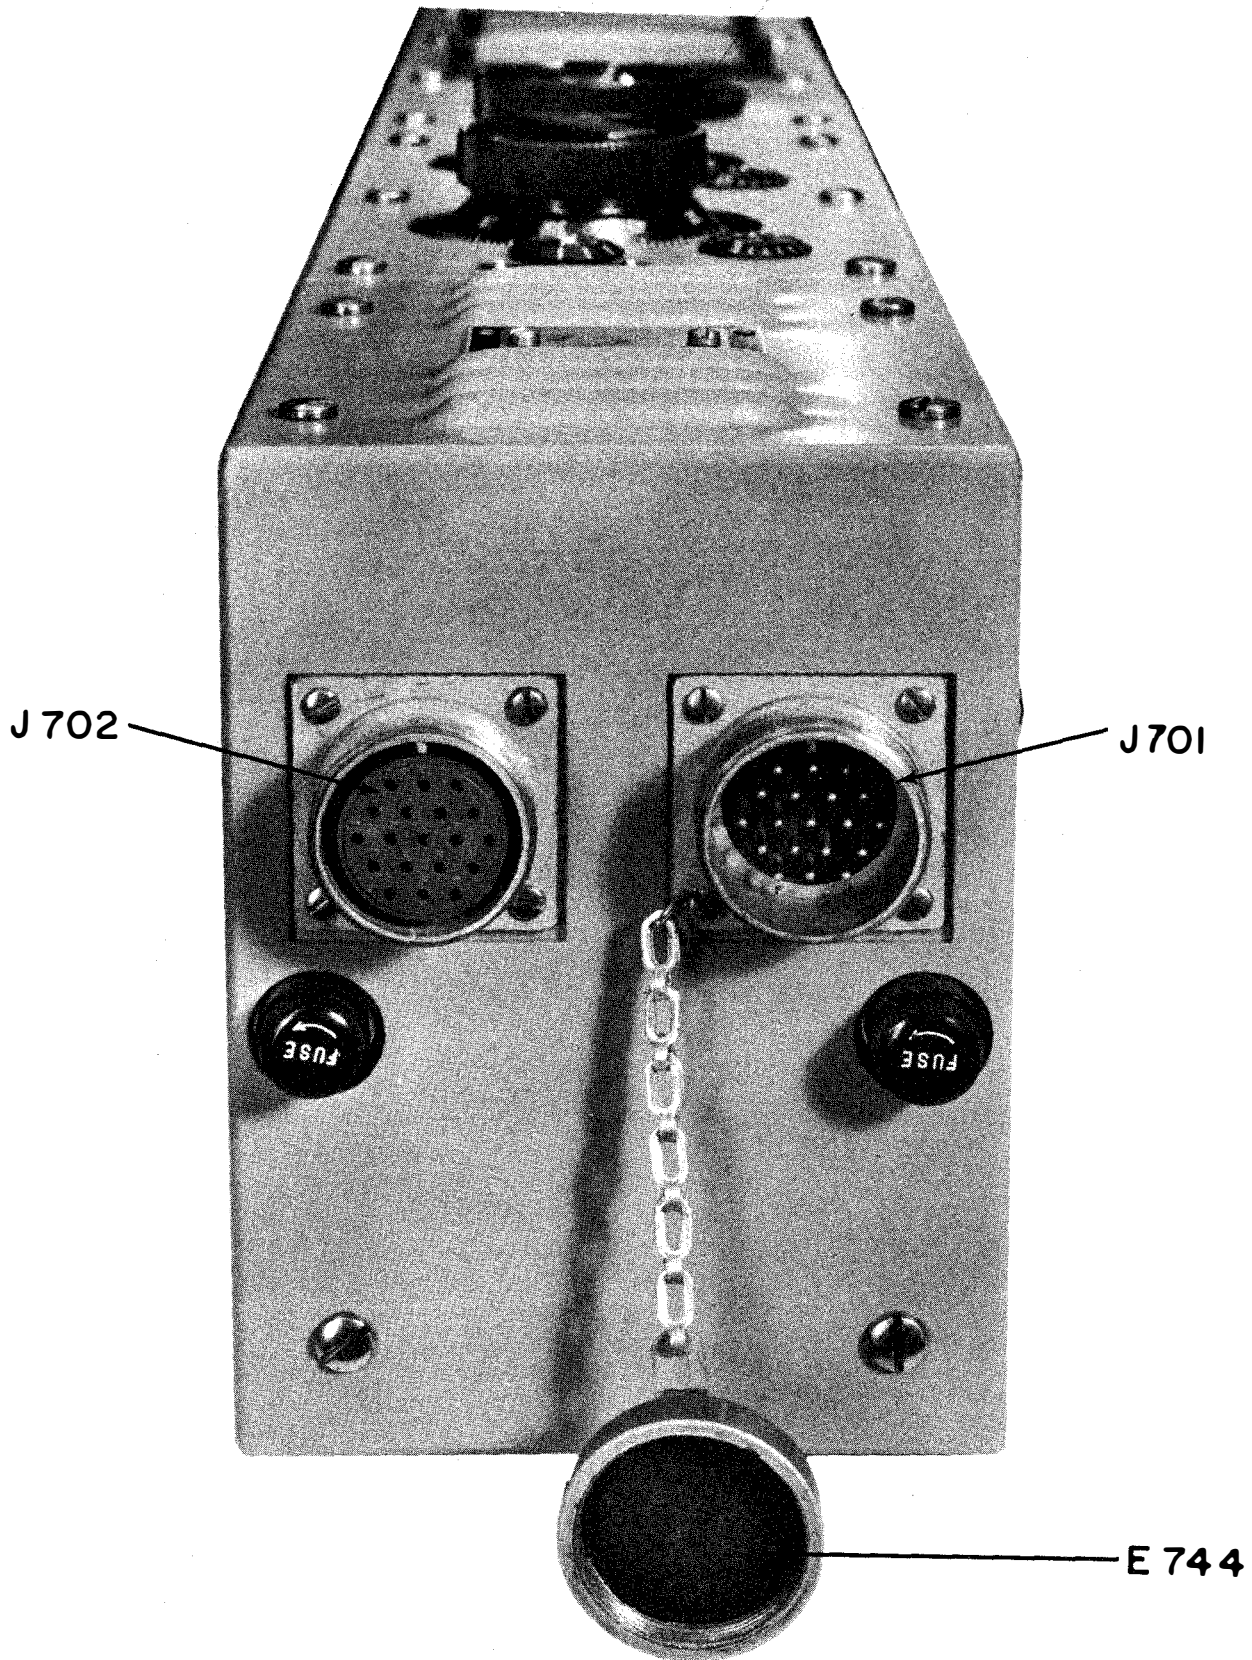

Figure 3-9. Top View of Antenna Coupler CU-255/UR
a. The control cable receptacles J701 and J702 are shown in Figure 3-9. Both of these are in use with the RDZ setup as shown in Figure 3-8. J702 is not used with the TDZ setup so it should be covered with the E744 to keep out dirt and dust.